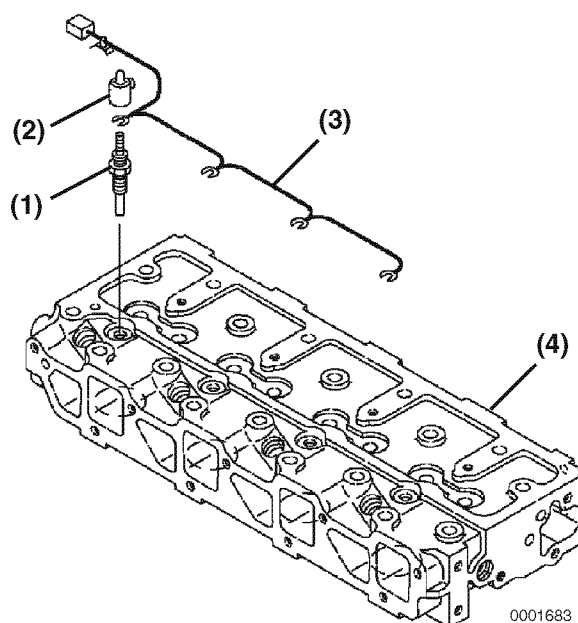

Figure 6-33
1. Install the glow plugs **(Figure 6-33, (1))** into the cylinder head **(Figure 6-33, (4))**. Torque the glow plugs to the specified torque.
2. Connect the glow plug harness **(Figure 6-33, (3))** to the glow plugs.
3. Install the glow plug cover **(Figure 6-33, (2))** on each glow plug.